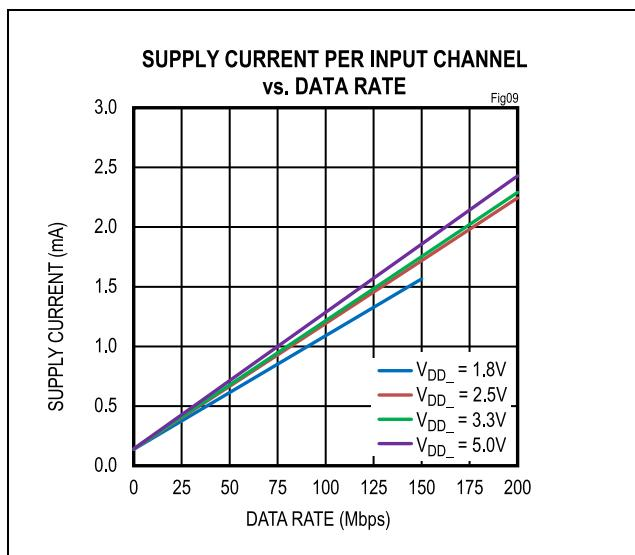
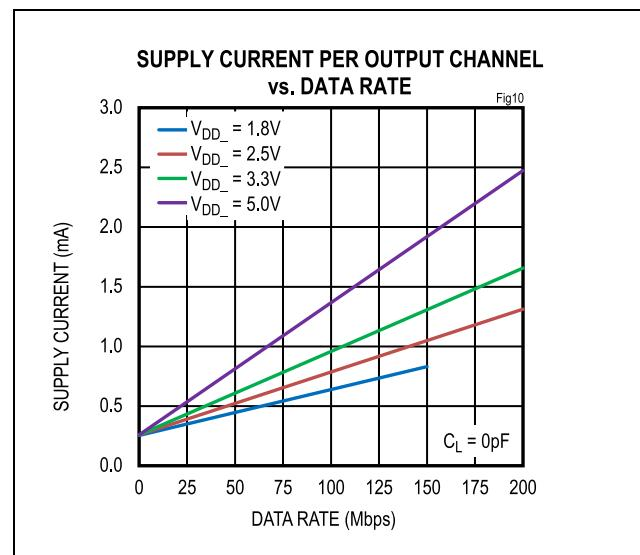

Figure 9. Supply Current Per Input Channel (Calculated)
Figure 10. Supply Current Per Output Channel (Calculated)
The required current for a given supply (V_{DDA} or V_{DDB}) can be estimated by summing the current required for each channel. The supply current for a channel depends on whether the channel is an input or an output, the channel's data rate, and the capacitive or resistive load if it is an output. The typical current for an input or output at any data rate can be estimated from the graphs in Figure 9 and Figure 10. Note that the data in Figure 9 and Figure 10 are extrapolated from the supply current measurements in a typical operating condition.
The total current for a single channel is the sum of the no load current (shown in Figure 9 and Figure 10) which is a function of voltage and data rate, and the load current, which depends on the type of load. Current into a capacitive load is a function of the load capacitance, the switching frequency, and the supply voltage.
- Channel 1 is an input channel operating at 2.5V and 20Mbps, consuming 0.35mA, estimated from Figure 9.
- Channel 2 is an input channel operating at 2.5V and 100Mbps, consuming 1.19mA, estimated from Figure 9.
- Channels 3 and 4 are input channels operating at 2.5V with DC signal, consuming 0.14mA, estimated from Figure 9.
- Channel 5 is an output channel operating at 2.5V and 50Mbps, consuming 0.52mA, estimated from Figure 10.
- Channel 6 is an output channel operating at 2.5V and 200Mbps, consuming 1.31mA, estimated from Figure 10.
- Channel 1 is an output channel operating at 3.3V and 20Mbps, consuming 0.40mA, estimated from Figure 10.
- Channel 2 is an output channel operating at 3.3V and 100Mbps, consuming 0.96mA, estimated from Figure 10.
- Channels 3 and 4 are output channels operating at 3.3V with DC signal, consuming 0.26mA, estimated from Figure 10.
- Channel 5 is an input channel operating at 3.3V and 50Mbps, consuming 0.68mA, estimated from Figure 9.
- Channel 6 is an input channel operating at 3.3V and 200Mbps, consuming 2.29mA, estimated from Figure 9.